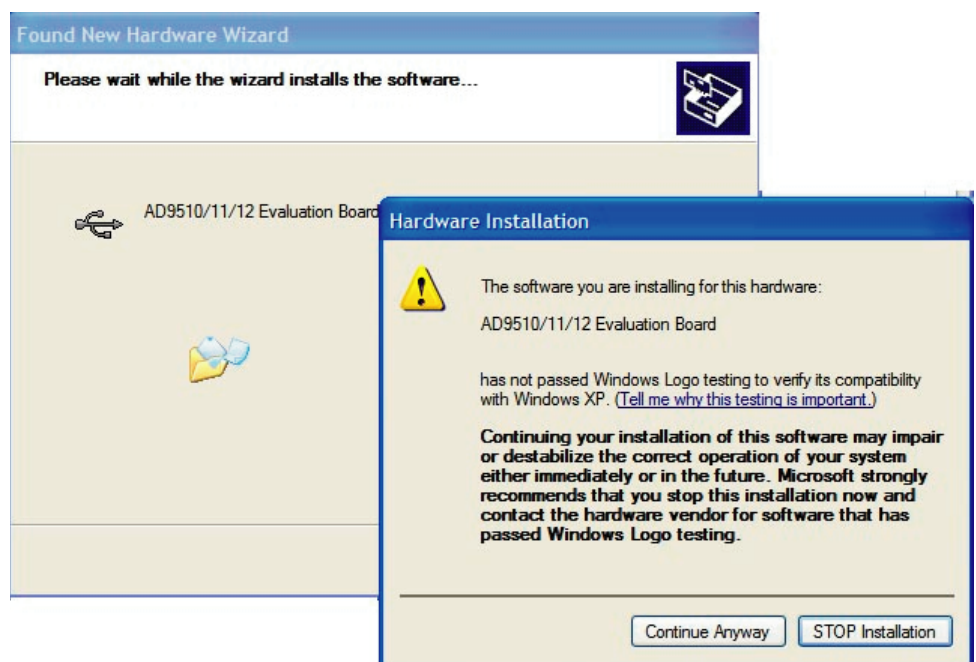

Figure 10.
- When the window in Figure 10 appears, click **Continue Anyway**.